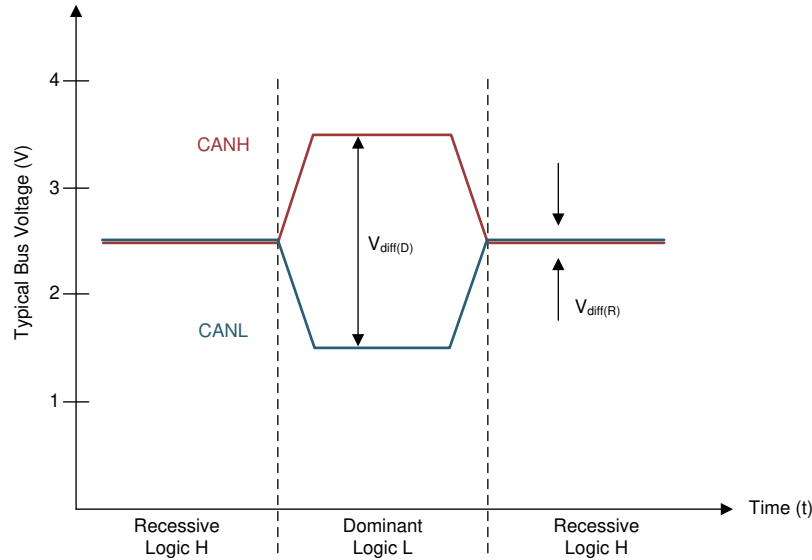
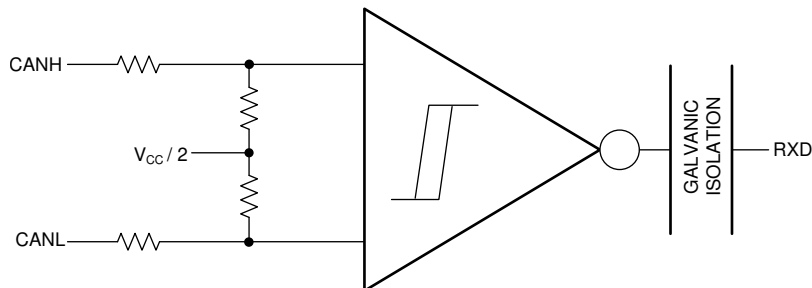

图 8-1. Bus States (Physical Bit Representation)
图 8-2. Simplified Recessive Common Mode Bias and Receiver
The CAN bus has two states during operation: *dominant* and *recessive*. A dominant bus state, equivalent to logic low, is when the bus is driven differentially by a driver. A recessive bus state is when the bus is biased to a common mode of  $V_{CC} / 2$  through the high-resistance internal input resistors of the receiver, equivalent to a logic high. The host microprocessor of the CAN node uses the TXD pin to drive the bus and receives data from the bus on the RXD pin. See 图 8-1 and 图 8-2.
(1) H = high level, L = low level, Z = common mode (recessive) bias to  $V_{CC} / 2$ . See 图 8-1 and 图 8-2 for bus state and common mode bias information.